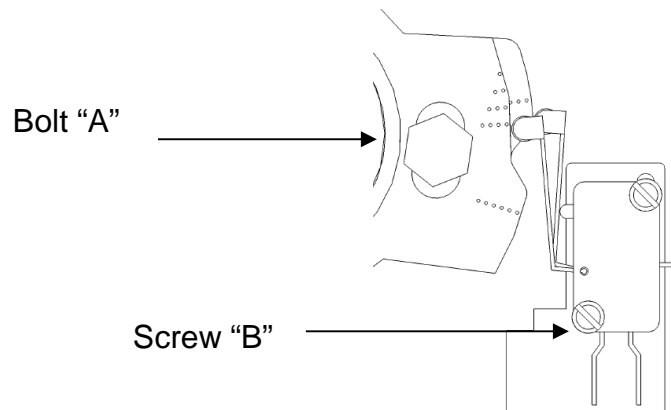

Fig. 2
4. Slacken bolt ("A" fig 2) and adjust cam plates until they are flush on the top.
5. Slacken screws ("B" fig 2) to adjust switches; the lever arm must rise on the cam as shown sufficiently to make the circuit. The switch will give an audible click, if necessary bend the lever arm towards the cam to ensure the switch makes a circuit.